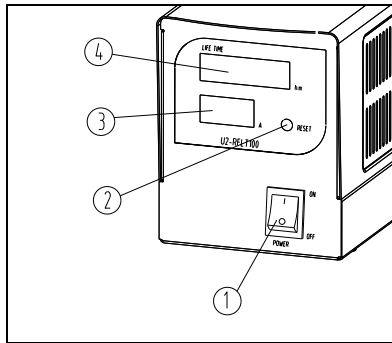

Fig.37
(1) After connect with main power supply, set the switch ① on mercury lamp power supply at “—” (ON), the mercury lamp is light on. It costs 5 minutes to warm up mercury lamp to be stable. (See Fig. 37)
(2) The timer (LIFE TIME) ④ shows hour, minute, second of total 5 bits from left to right. If the number is more than 5 bits, it will show first 5 bits and hide the rest. To see the rest numbers, touch the timer reset button (RESET) ②, the rest number will be shown for 6 seconds and then return.
(3) If change a new mercury lamp or clear the numbers of the timer (LIFE TIME) ④, press the reset button (RESET) ② for more than 5 seconds, and all the hours, minutes and seconds will clear.
(4) The indicating range of the current ③ is 0~9.99A.